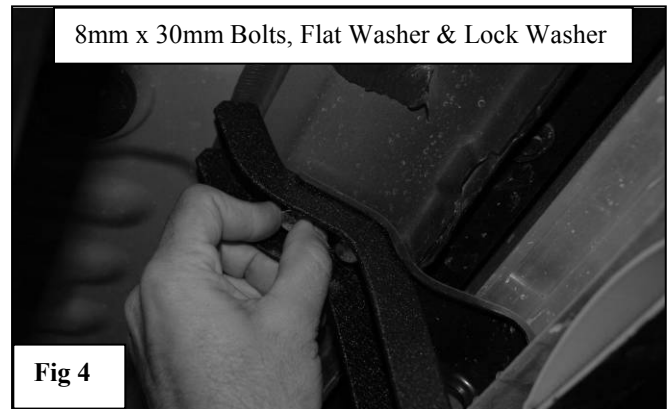

Fig 4
3. Position the Brackets onto the sidewall & align the Bracket holes to the factory holes (Fig 4).